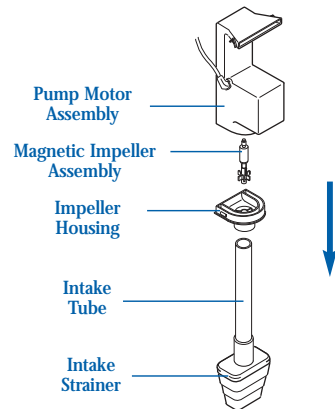

FIGURE 14
3. Unplug Light and Pump Motor Assembly. Remove Pump Assembly from Eclipse unit. Separate Magnetic Impeller Assembly and Intake Tube (Fig. 14).